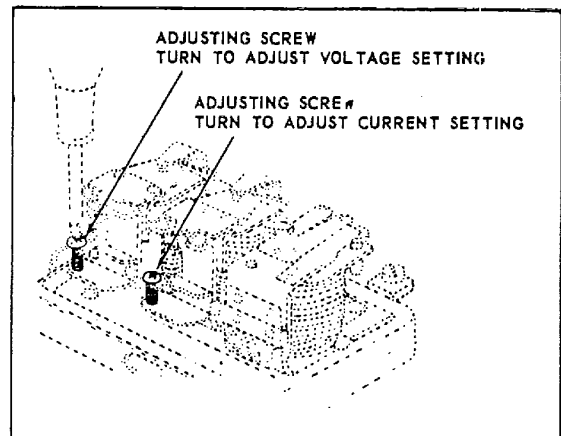
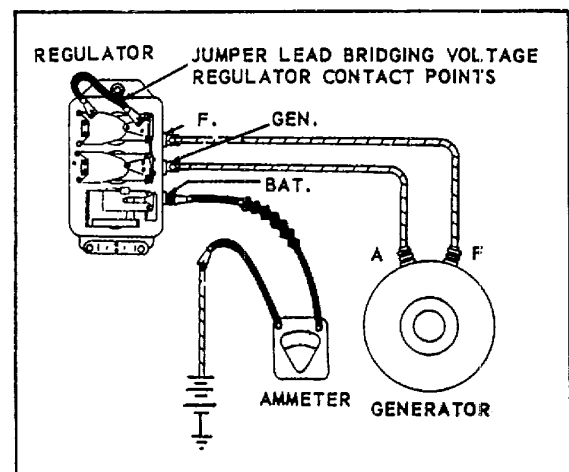

Figure 7-1H. Voltage and Current Adjustments
Figure 7-1J. Checking Current Setting of Current Regulator
for proper voltage setting.) To adjust voltage setting, turn adjusting screw as shown in figure 7-1H, clockwise to increase voltage setting and counter-clockwise to decrease voltage setting.
b. To check the current regulator setting, the voltage regulator must be prevented from operating. Remove the regulator cover and connect a jumper lead across the voltage contact points. Disconnect the battery lead at the regulator, connect the 2.25 ohm fixed resistor in series with a suitable ammeter and connect the battery lead to the ammeter. (See figure 7-1J.) Operate the generator at specified speed and note current setting. (See Table VI for proper current setting.) If necessary, adjust by turning the adjusting screw clockwise to increase current setting or counter-clockwise to decrease current setting. (See figure 7-1H.)